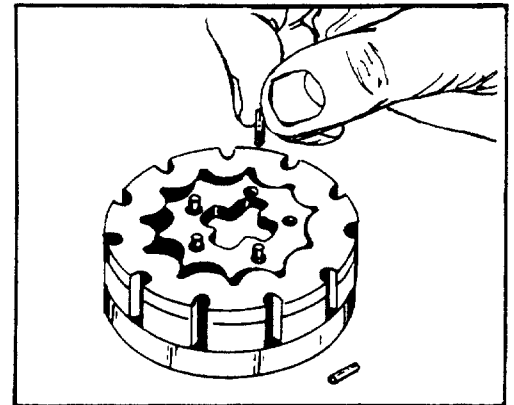

FIGURE 27.
- remove alignment pins** 32. Remove the five alignment pins (11). See figure 27.